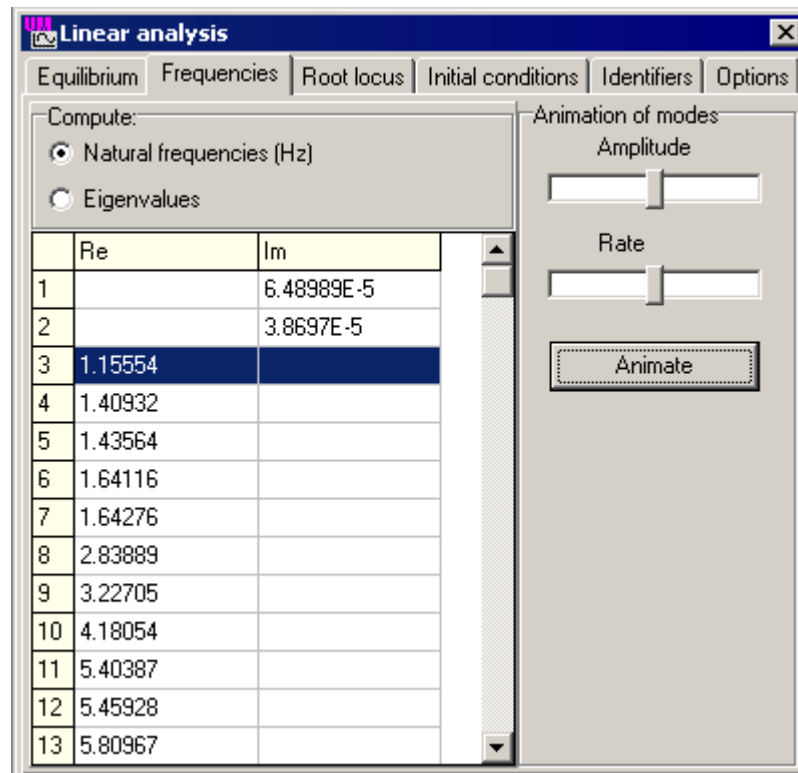

Figure 1.10. Window of linear analysis
3. Select the **Frequencies** tab, see Fig. 1.10.
5. In the **Compute** group select the **Eigenvalues**, see Fig. 1.10.